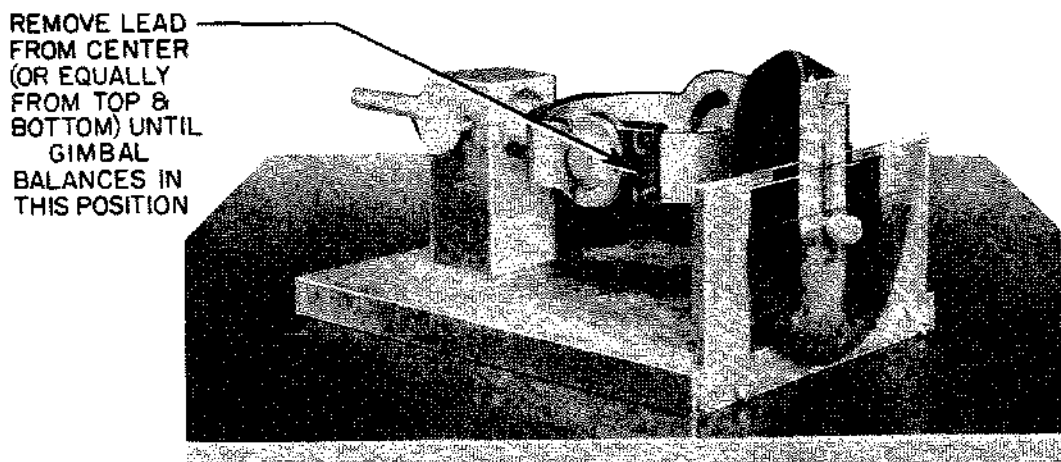

FIGURE 27 BALANCING THE GIMBAL RING, POINTER BAR HORIZONTAL
3. Turn the gimbal ring so that the pointer bar is horizontal and tap the base of the fixture with the rubber hammer. The left side of the gimbal ring will normally be heavy and it will be necessary to remove lead equally from the top and the bottom of the lead weight or from centre until the gimbal ring will stand in this position. (See Fig. 27.)